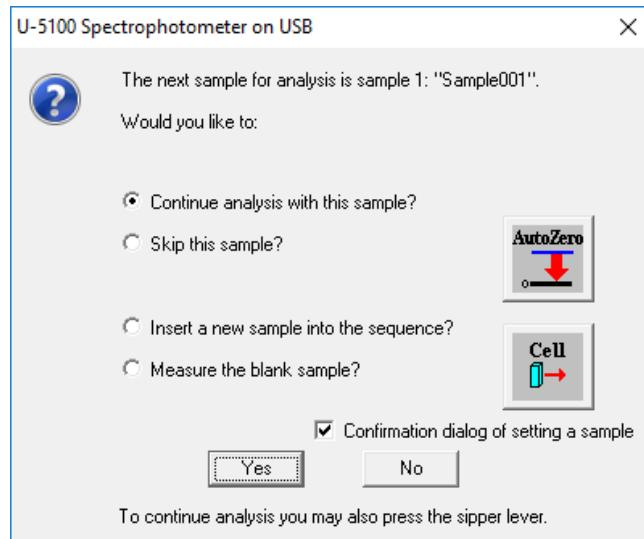

Fig. 4-66
- (2) When “Autozero Before Sequence Measurement” is turned on, auto zero will be executed with cell A. After completion of auto zero operation, the window/message box shown in Fig. 4-66 is displayed. Follow the reported messages. For changing the cell position, select “Cell.” And for terminating all the measurements, click the **No** button.